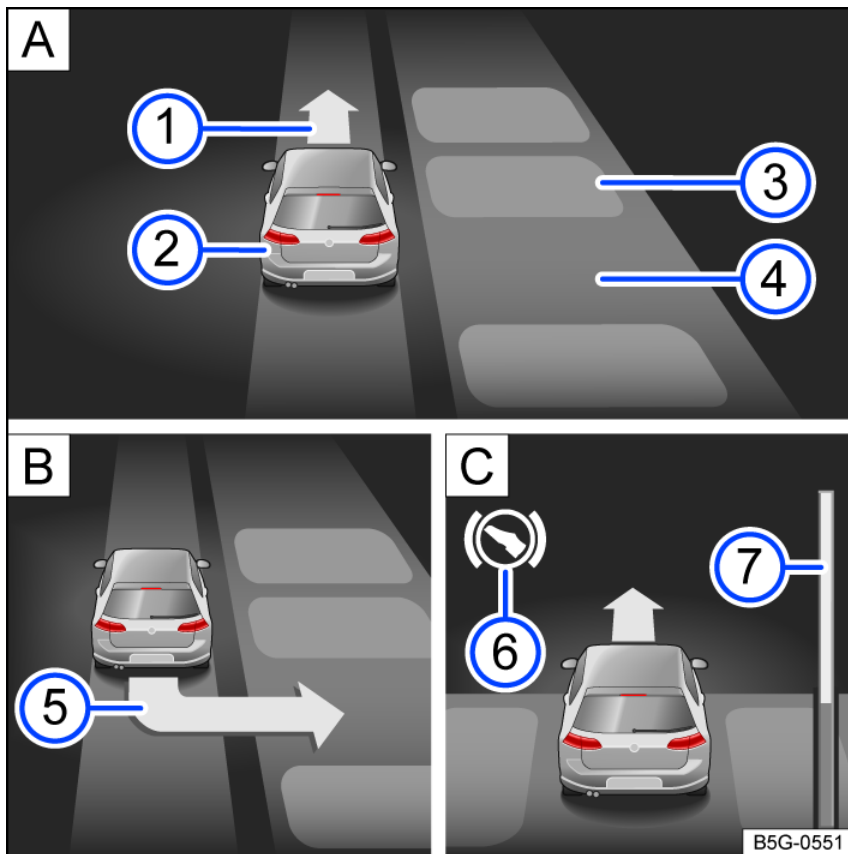

Fig. 129 In the instrument cluster display: parking perpendicular to the road.
- ① Prompt to drive forward.
- ② Your vehicle.
- ③ Parking vehicle or obstacle.
- ④ Detected parking space.
- ⑤ Request to drive backwards.
- ⑥ Request to brake.
- ⑦ Progress bar (relative distance remaining).
2. Pay attention to the prompt for parking in the instrument cluster display *fig. 129* ⑤.